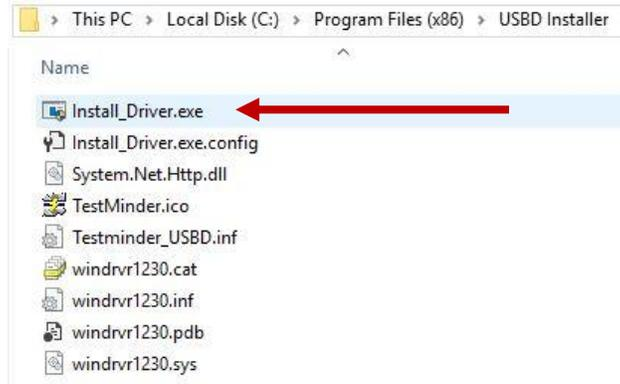

Figure 12 Driver installer folder contents
13. After the setup driver installation finishes, open a file explorer window and go to the location mentioned in step 12, normally it would be under "C:\Program Files(x86)\USB D_Installer. Look for the file named "Install_driver.exe and right click on it then choose "Run as Administrator" (Figure 12).